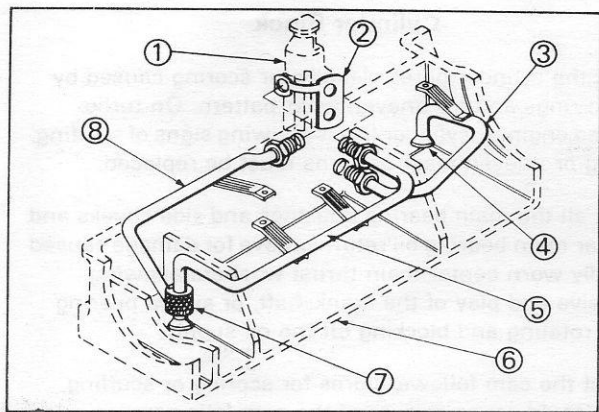

**Fig. 14 - Oil Pump Removal/Replacement - Engines Not Fitted With High Inclination Oil Pans**
35. Bend up the lock tabs securing the oil pick-up pipe union nut to the oil pump, and unscrew the union (Fig. 14). Remove the pick up pipe support bracket bolt from the main bearing cap and withdraw the pick up pipe from the pump. Remove the bolts securing the pump to the cylinder block and carefully withdraw the pump.